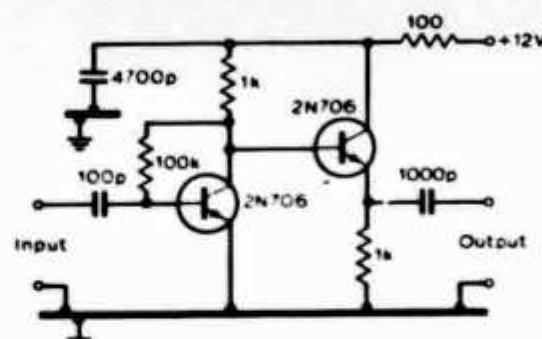

Fig. 8. Broadband buffer amplifier used by PA9KSE to feed output from vfo into the Japanese 144MHz equipment or to the tripler of a home-made receiver
(5) If used in a receiver, care should be taken that no harmonics of the vfo, vco or reference do fall on the signal frequency, the image frequency or in the i.f. passband.
(6) Citizen's band 27MHz crystals have a fundamental frequency of about 9MHz and work well on their fifth overtone: it is thus possible easily and cheaply to experiment between 45 and 46MHz using this type of crystal.
(7) Phase-lock loop oscillators of this type allow a vfo to be on frequencies much lower than is practical in a mixer-type vfo. A range of 1 to 1.5MHz, for example, is entirely practical, producing a very stable signal; such a refinement is not really needed for 144MHz fm operation although it would permit reproducible fixed channel selection without the cost of crystals.
(8) In a well-screened pll vfo virtually the only possible spurs are those located alongside the wanted signal and caused by any form of ripple on the control voltage: in a receiver such a condition can be observed as phase modulation on incoming signals (any vco is inherently susceptible to any ripple on power supplies etc).
(9) When used in a transmitter the pa or aerial should only be energized after the loop is locked; otherwise the signal swings through the band and this must be avoided even if the rate of frequency swing is so high that the signal flashes through the passband of receivers.
(10) Frequency modulation is possible by modulating either the crystal oscillator or the vfo; the control system is fast enough to transfer such fm to the vco.
(11) Output can be taken from the coupling link on the vco tank via a buffer-amplifier (Fig 8). The signal can then be fed directly into a Japanese equipment or the tripler of a home-made receiver.